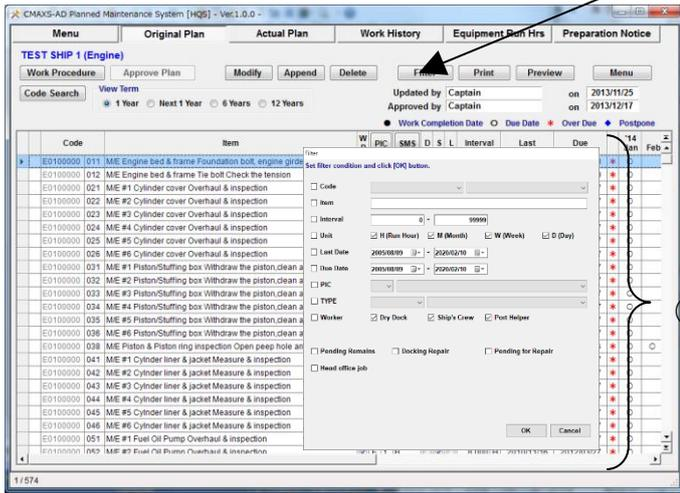

Fig.13-3 Original Plan Screen
- (1) Select [Filter] button on the “Long Term Plan Screen”(Fig.13-3).
- (2) Select or enter extracting conditions. Then, select [Ok].